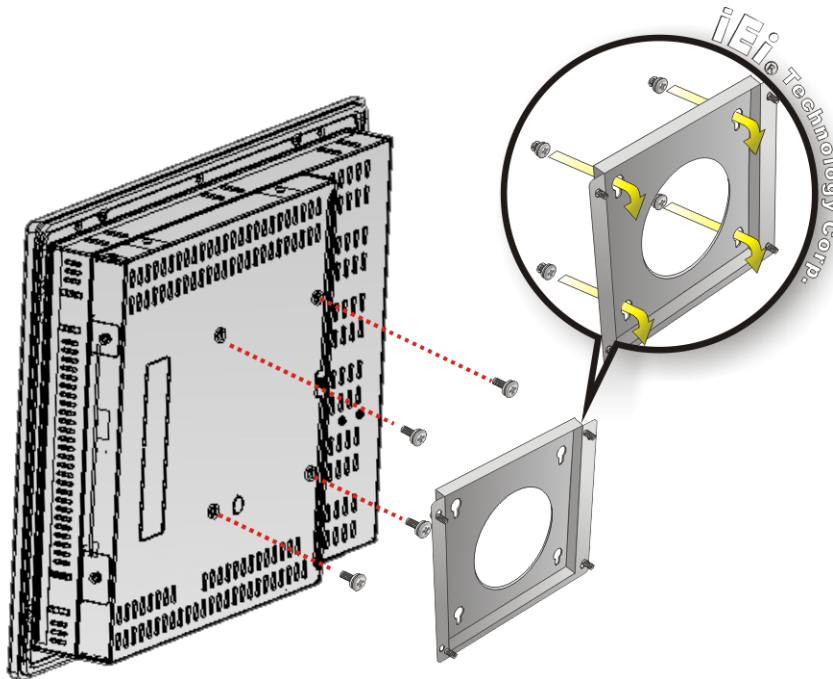

Figure 5-13: Wall Mounting the Monitor
Step 8: Carefully insert the screws through the holes and gently pull the monitor downwards until the monitor rests securely in the slotted holes (**Figure 5-13**). Ensure that all four of the mounting screws fit snugly into their respective slotted holes.